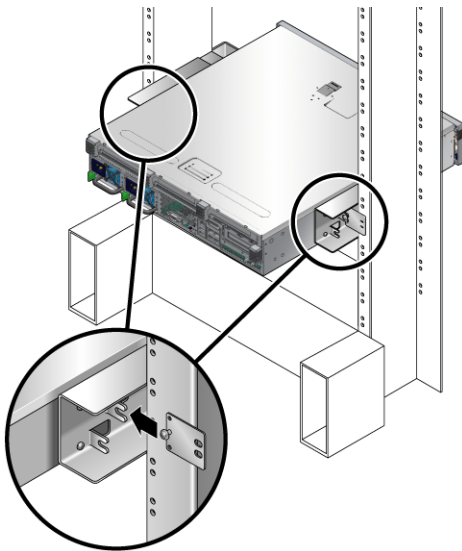

FIGURE 3-6 Installing the Rear Plate to the Side Bracket
The screw head should be facing the rear of the server and the far side of the rear plate should be lined up with the rack post (FIGURE 3-6).
- c. Tighten the screw to secure the rear plate to the eyelet on the side bracket (FIGURE 3-6).